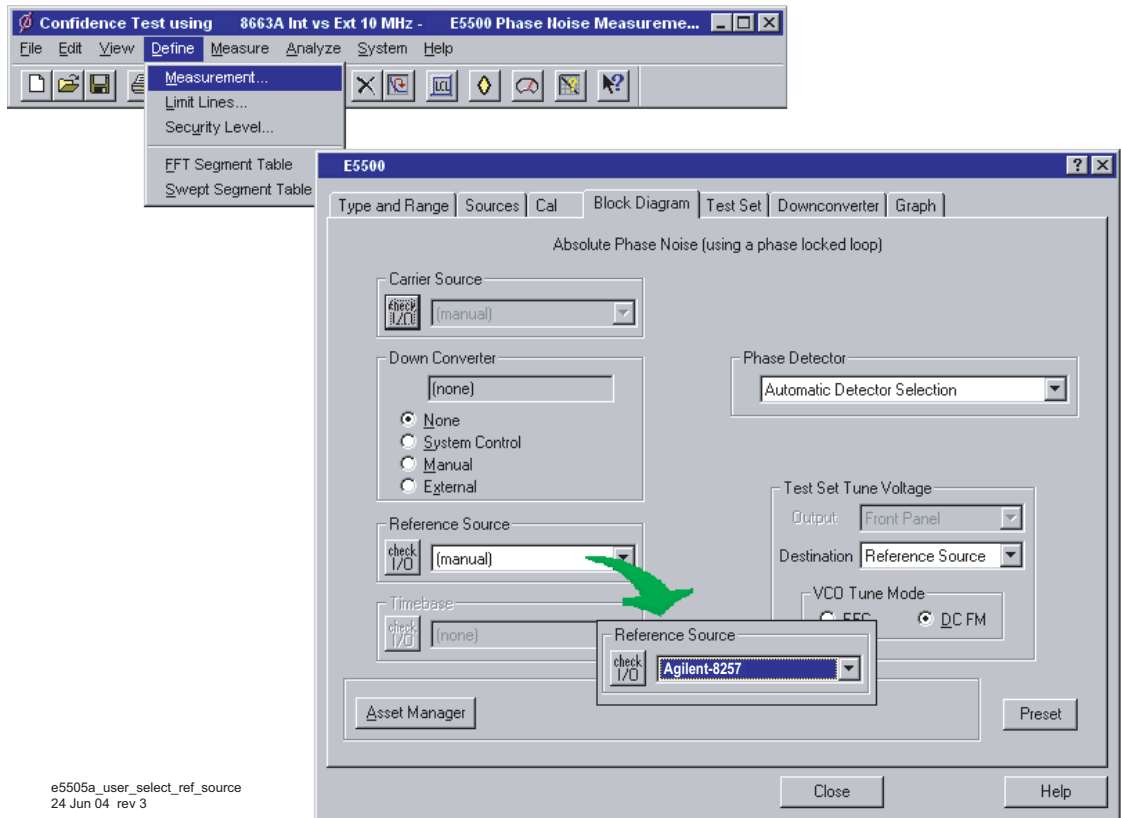

Figure 135 Selecting a reference source
- 1 Using Figure 135 on page 190, navigate to the **Block Diagram** tab.